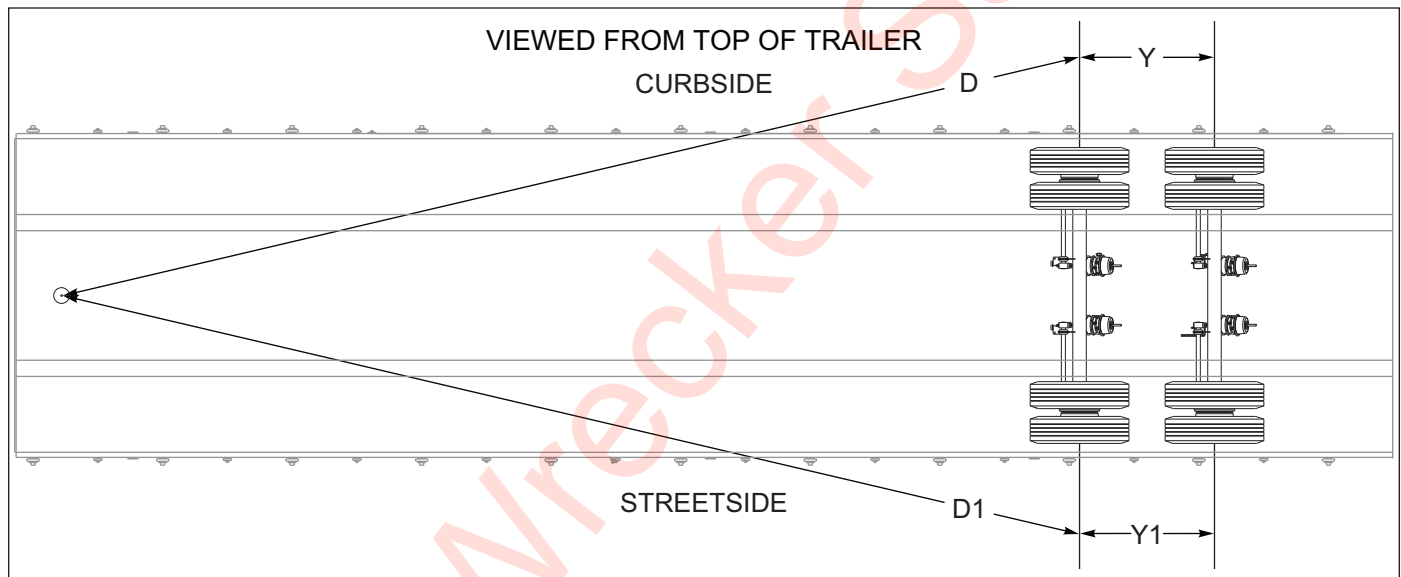

Figure 5-11: Checking Axle Alignment
5. Measure **Curbside (D)** from the plumb bob to the 1st axle center. Measure **Streetside (D1)** from the plumb bob to the 1st axle center. Curbside (D) should be about 1/8 inch (3.175 mm) shorter than Streetside (D). **See Figure 5-11 on Page 5-13.**
2. Measure from 1st axle center to the trailer 2nd axle center on the curbside then the streetside. Measurements should be the same. Use (Y) and (Y1) as reference. **See Figure 5-11 on Page 5-13.**
2. Measure from flip assembly axle center to the trailer rear axle center on the curbside then the streetside. Measurements should be the same. Use (Y) and (Y1) as reference. *See Figure 5-11 on Page 5-13.*